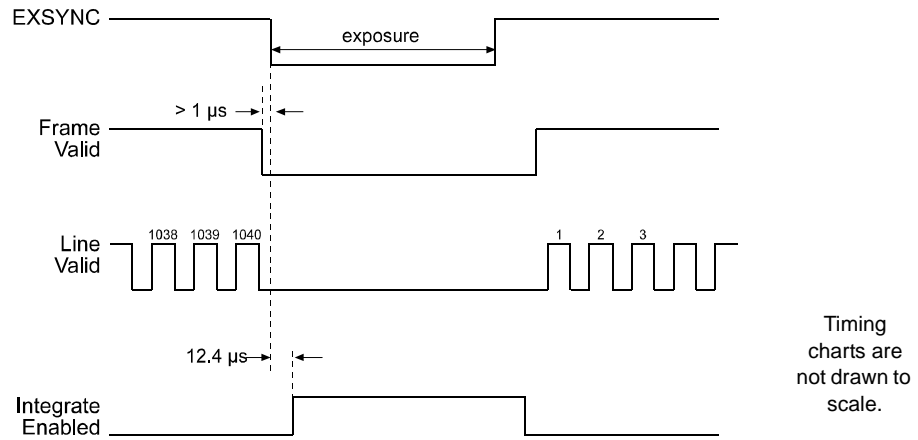

Figure 3-5: ExSync, Level-controlled Mode - Exposure Start with Frame Valid Low
- In case two (see Figure 3-5), the falling edge of ExSync occurs after the previously captured frame has been transmitted, that is, when frame valid is low. This will occur when the frame rate is medium or low.
If the ExSync signal falls while frame valid is low as shown in Figure 3-5:
<p>As shown in Figure 3-5, FVAL must be low for at least 1 <math>\mu\text{s}</math> before the ExSync signal falls.</p>